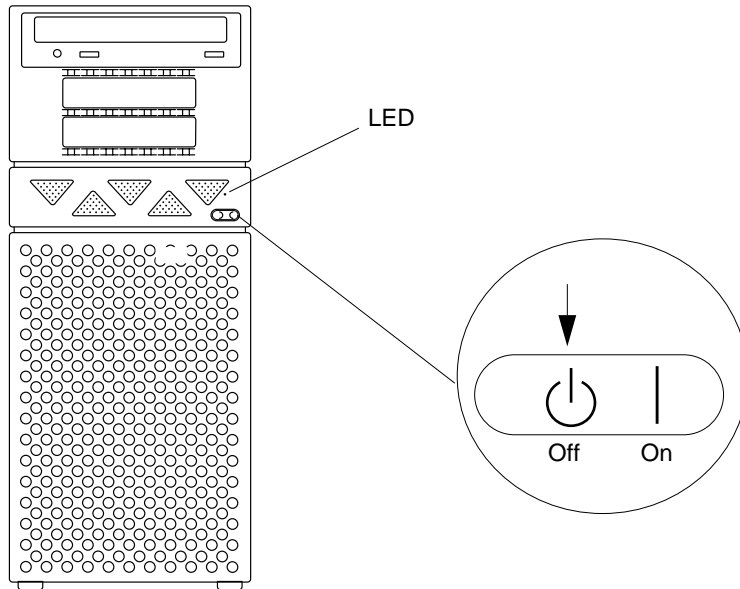
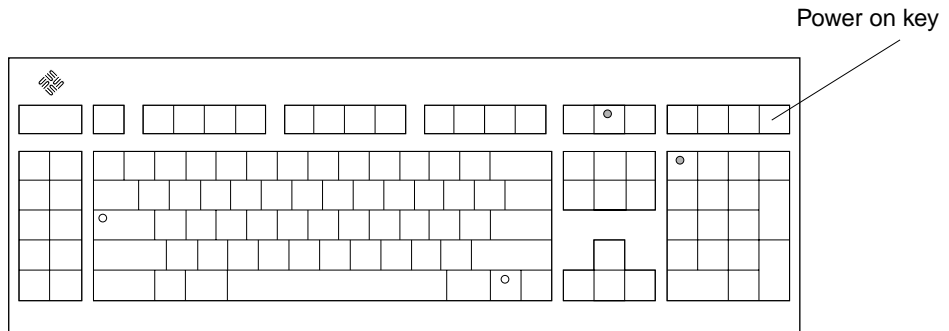

FIGURE 1-2 Front Panel Power Switch and LED
FIGURE 1-10 Sun Type-5 Keyboard
4. **Set the front panel power switch to the off position (FIGURE 1-2).**
Set the front panel power switch to the **On** position (FIGURE 1-2) or press the Sun type-5 keyboard power on key (FIGURE 1-10).